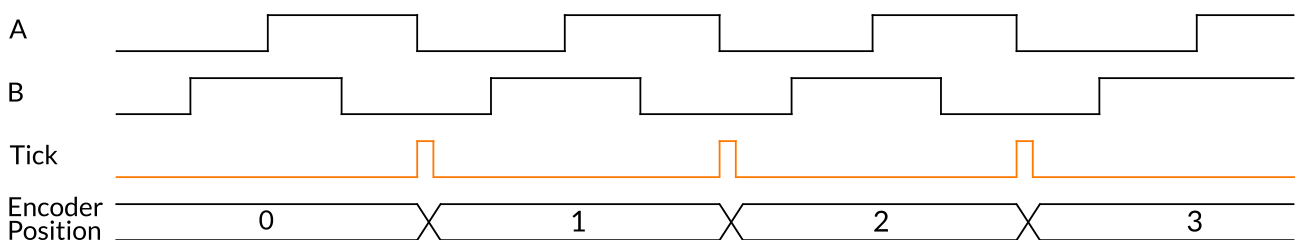

Figure 4.19: Ticks generated in FourPhases mode
In `FourPhases` mode, the encoder module generates a single tick only after a complete quadrature cycle is detected (Figure 4.19). A full cycle corresponds to the sequence of states: $00 \Rightarrow 01 \Rightarrow 11 \Rightarrow 10 \Rightarrow 00$ (or the reverse sequence for opposite direction). This approach increases robustness against signal jitter and mechanical oscillations, as partial or incomplete transitions do not produce ticks. The position counter is updated only when the signal returns to the initial state (00), effectively dividing the resolution by a factor of four.